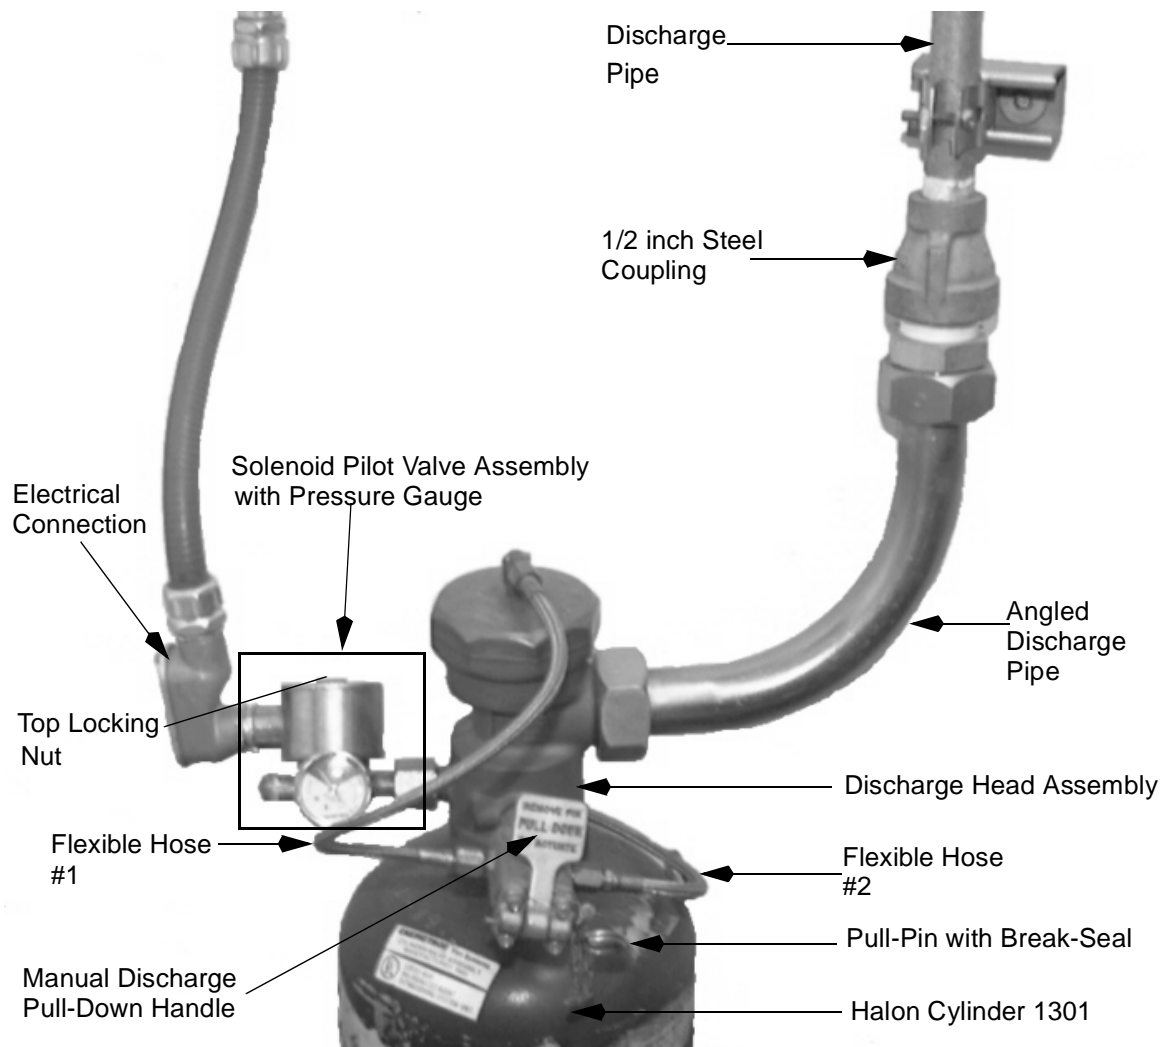

Figure 1 Halon 1301 Cylinder
2. Using an adjustable wrench, remove the top locking nut on the Solenoid Pilot Valve Assembly. (See Figure 1)
5. Using a pipe wrench, disconnect the Angled Discharge Pipe from the Discharge Head Assembly, then loosen the coupling nut at the top portion of the Angled Discharge Pipe. Swing the Angled Discharge Pipe away from the Discharge Head Assembly (See Figure 1.)